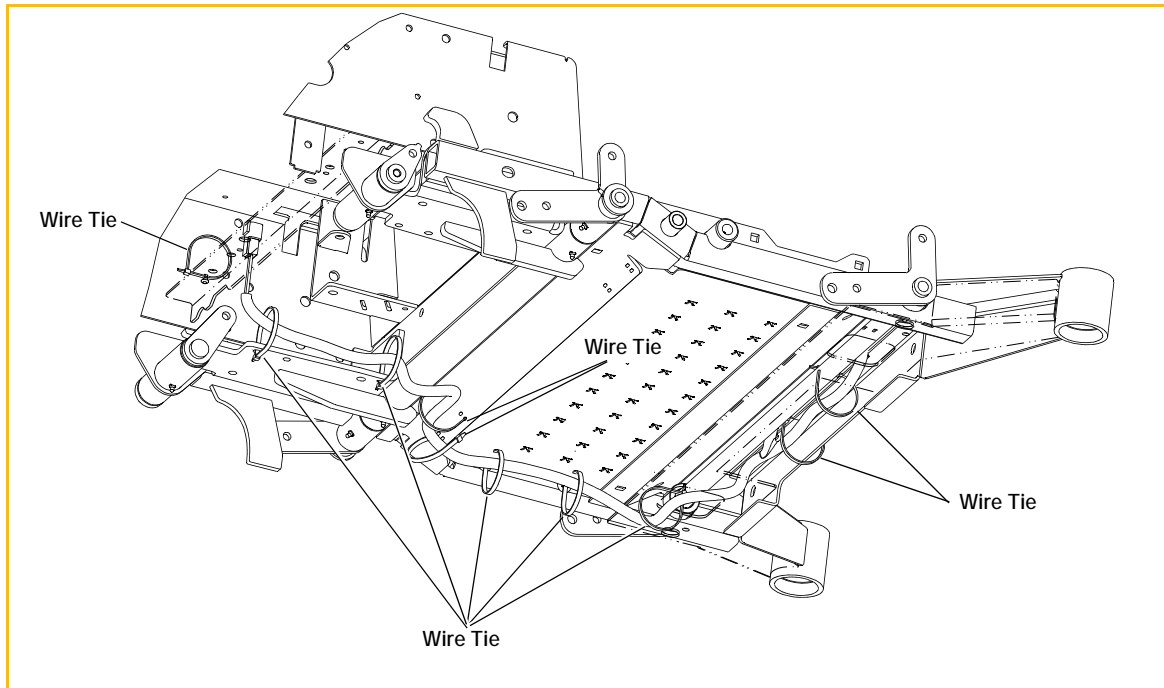
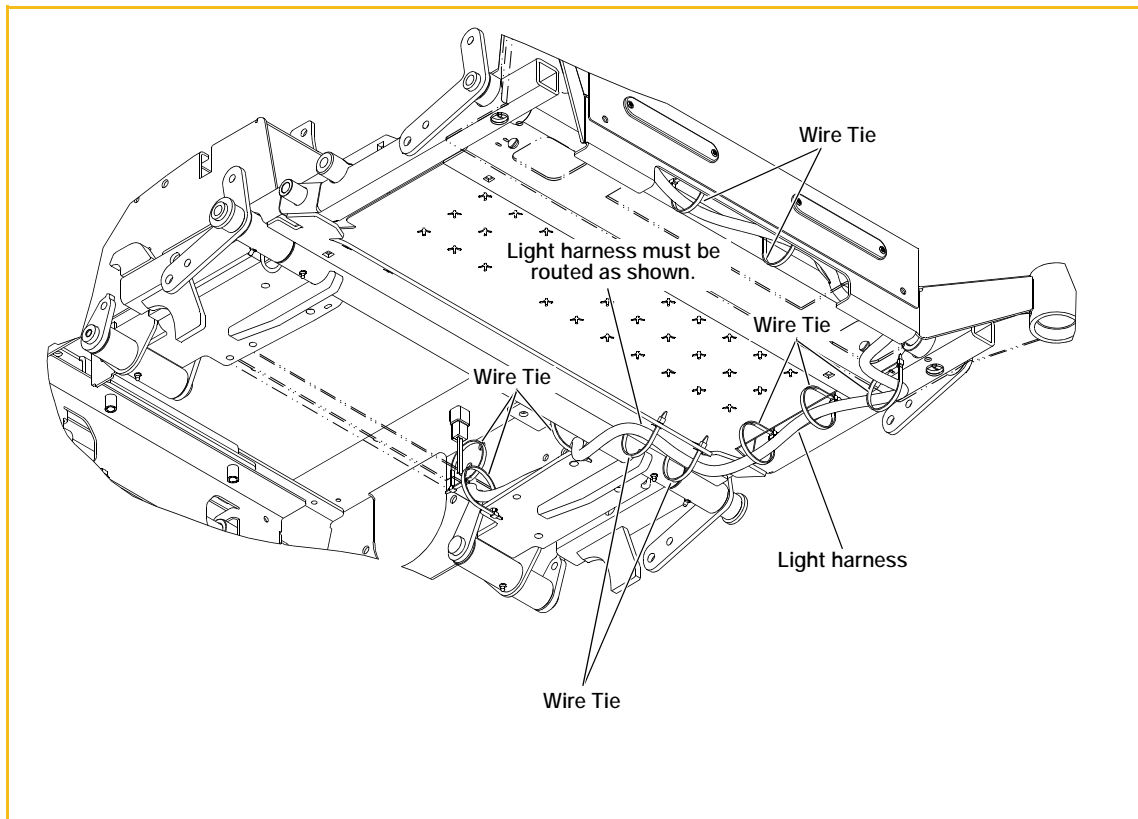
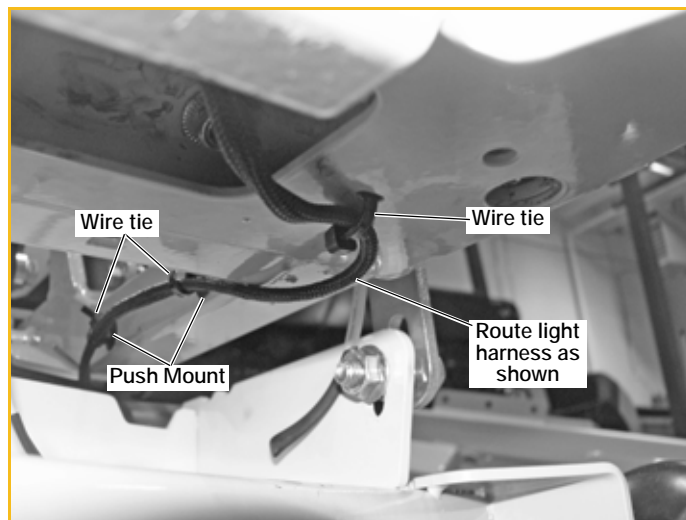

FIG. 4
FIG. 5
FIG. 6
9. Route the light harness along the inside of the front and left side of the mower frame, loosely securing it in place with wire ties. FIG. 4
IMPORTANT: The light harness **must** be routed per FIG. 4, FIG. 5 & FIG. 6 . .